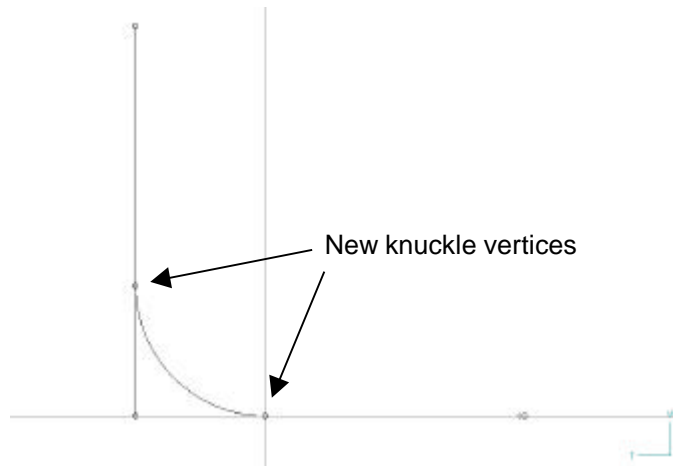

Figure 2-4: Midship Curve with two new vertices as knuckles
**Note:** This adds two new vertices as knuckle points and turns the selected corner vertex back into a regular vertex. (See Figure 2-4.) A surface extruded from this curve will have two knuckle lines (rows) along the entire length of the extrusion. With a little work, we will now make their knuckle points disappear.